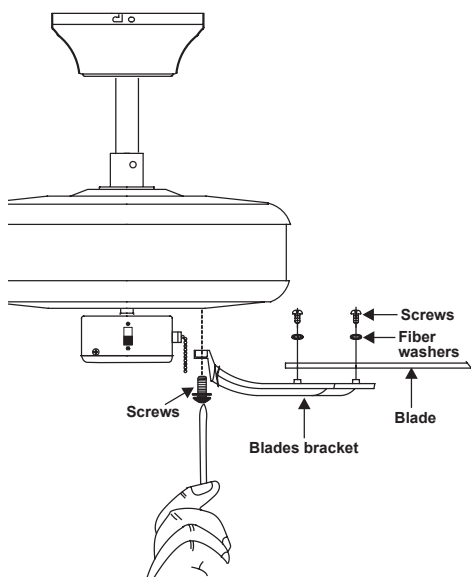

Figure 18
Step 1 Attach the blade to the blade bracket using the screws and fiber washers as shown in Figure 18. Start screw into bracket. Repeat for the two remaining screws.
Step 3 Fasten blade assembly to motor using the screws supplied. (Fig. 18)